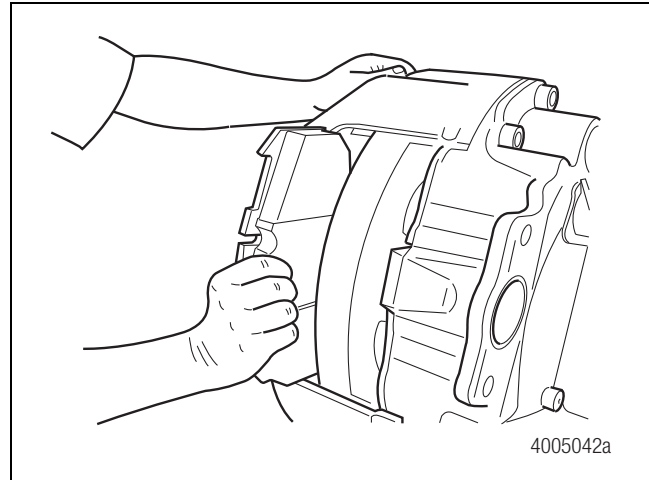

Figure 5.12
4. Remove the outboard brake pad from the caliper assembly and mark the brake pad "outboard". Figure 5.12.